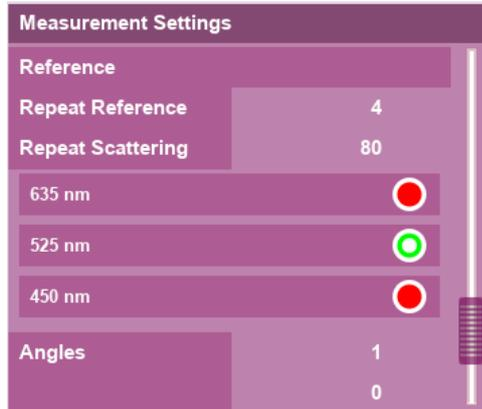

Figure 213 – Example of NE-100 Wavelength Selection
10. Confirm that your desired wavelength is selected. Figure 213 shows 525 nm as the most common selection. If you need to change the wavelength, press the desired wavelength radio button and Accept.